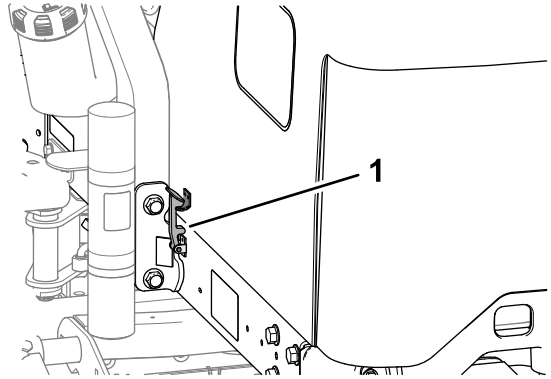

Figure 55
2. Rotate the hood up and back (Figure 55).